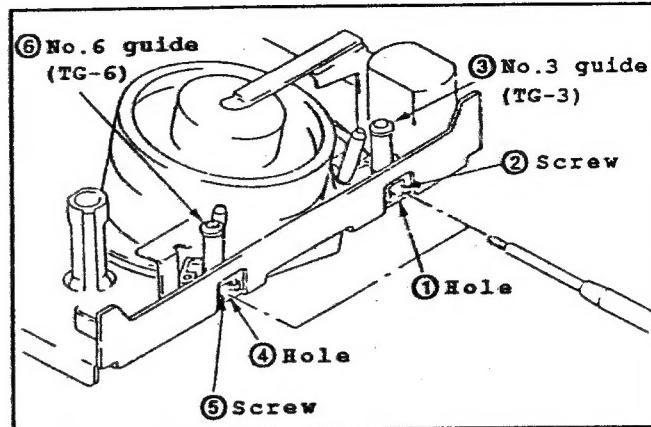

Fig.II-34
4-2 Tracking Adjustment (Fig.II-34)
- (1) Referring to the service manuals for each system, set it to the track shift made.(70 %)
- (2) Confirm that the waveform is flat. If not, turn No.3 and 6 guides to make it flat.
- (3) Tighten the screw ② of No.3 guide to lock it. At this time, confirm that the inlet side of waveform is not changed. (Fig.II-34)
- (4) Tighten the screw ⑤ of No.6 guide to lock it. At this time, confirm that the outlet side of waveform is not changed. (Fig.II-34)
*Note: Torque at Screws ②, ⑤: 200g/cm approx.